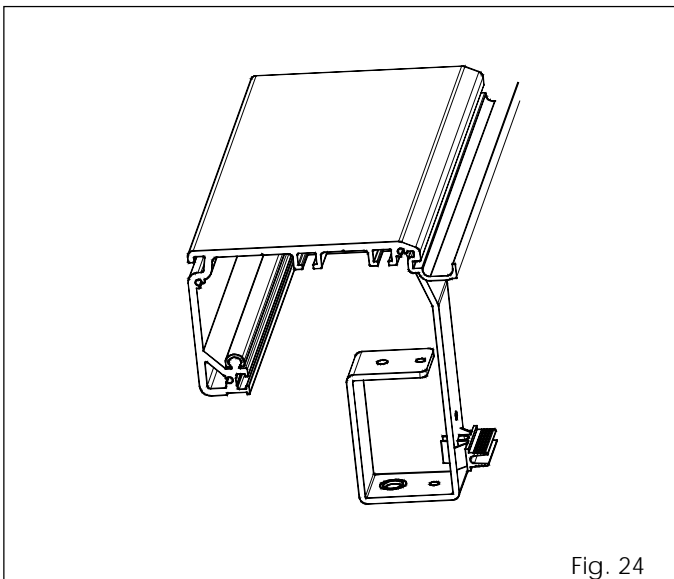

Fig. 24
- Secure the bracket supporting the internal release knob to the other end of the head profile (on the motor unit side), as shown in fig. 24.